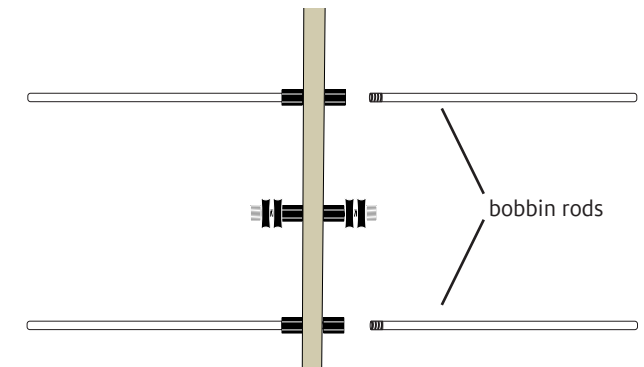

FIGURE 5: INSTALL BOBBIN RODS
4. Install a bobbin rod in each remaining coupler nut (Figure 5). If you wish, you can add bobbins and retainer rings now—the kate is a convenient place to store empty bobbins—or you can wait until you are ready to ply.